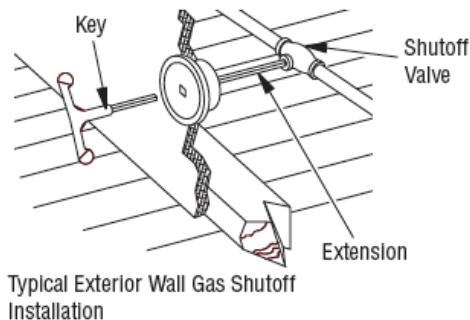

Figure 24 - Manual Shutoff Valve Installation
* A manual shutoff valve has been included with log/burner module models. You may consider installing an extra gas shut-off valve outside appliance's enclosure (check with local codes) where it can be accessed more conveniently with a key through a wall as shown in Figure 24.